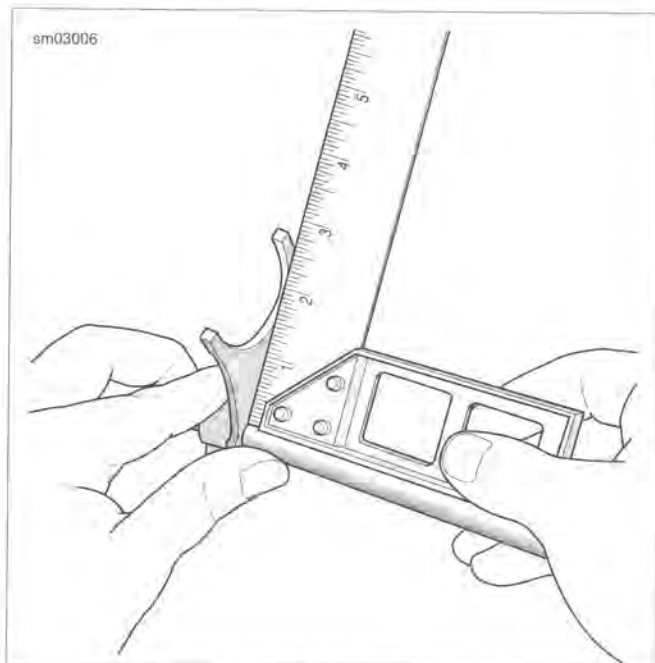

Figure 6-26. Checking Fork
7. See Figure 6-26. Using a small square, verify the shift forks are square. If shift fork does not rest directly on the square, then it is bent and must be replaced.